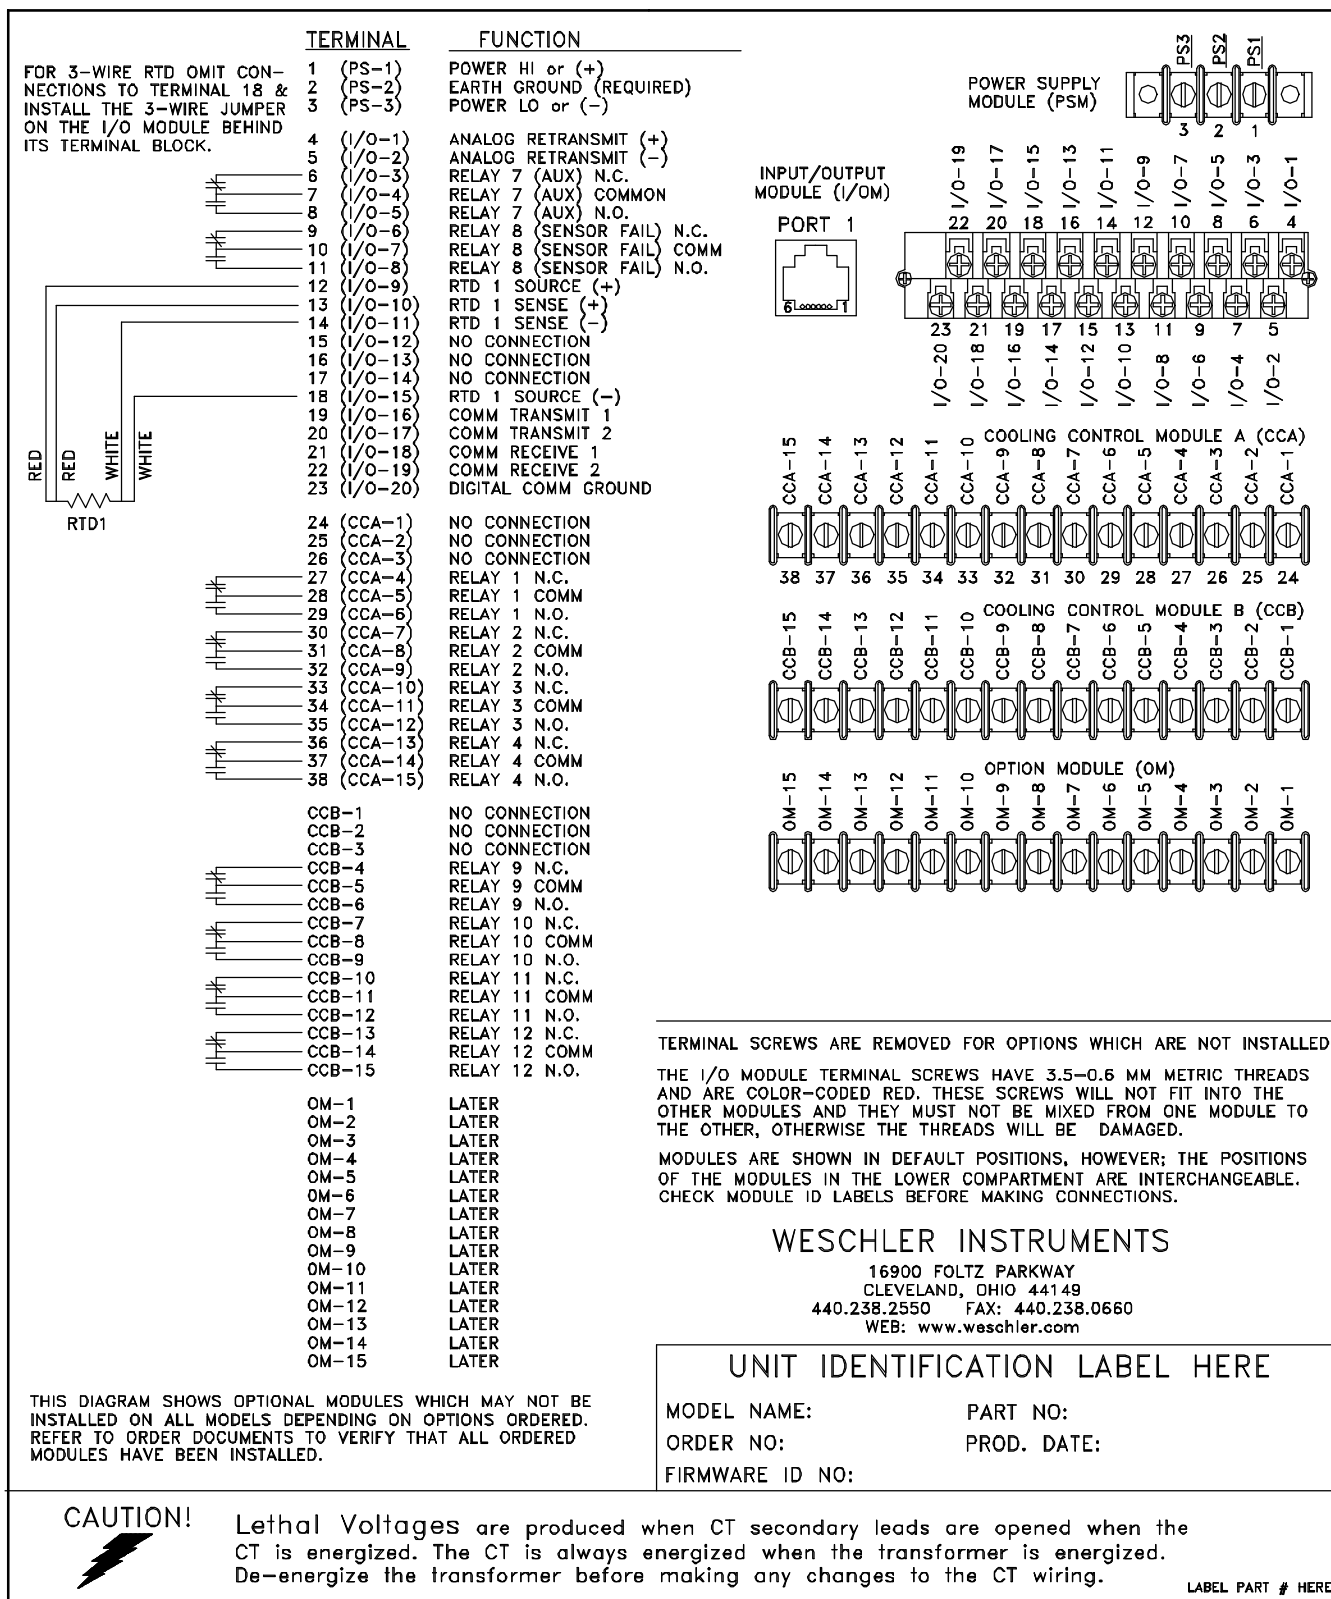

Figure 5B. Terminal Assignments and Locations. SC Models with 4/0 or 4/4 Relay C³ Module
- ! A single 4-relay module in the CCA position only, referred to as the 4-0 configuration (Figures 5B, D & F).
- ! A 4-relay module in the CCA position and a 4-relay module in the CCB position, referred to as the 4-4 configuration. (Figure 5B, D & F).